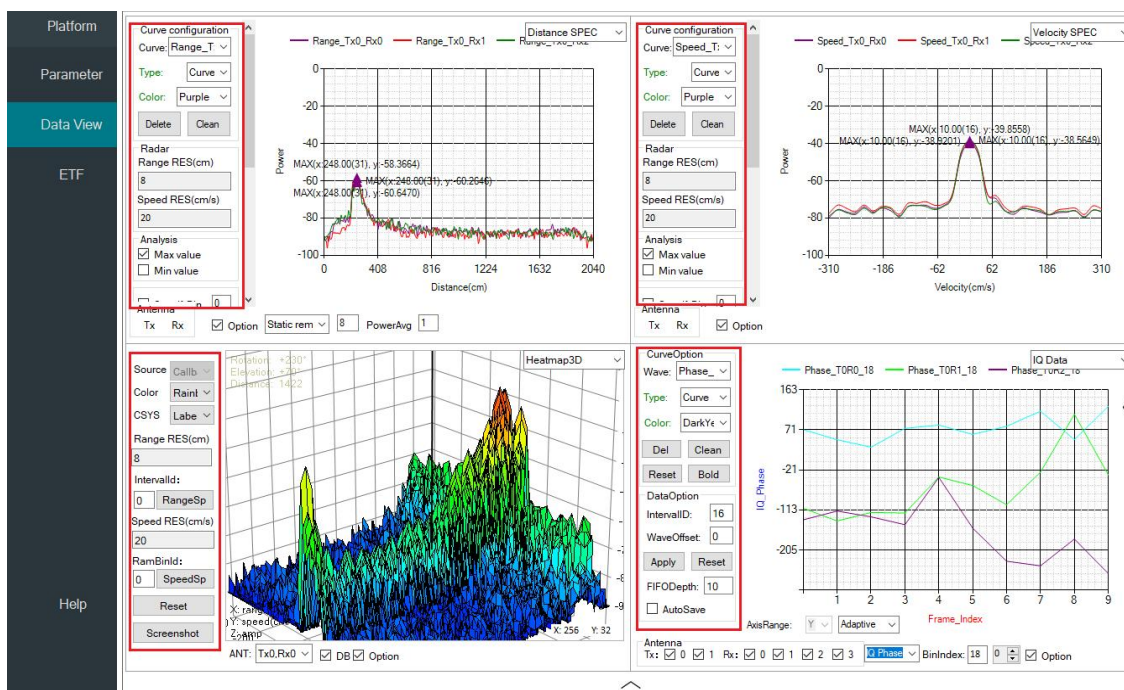

Figure 2-27 Configuration Options (DataCube)
3、 As shown in Figure 2-27, select Configuration Options to open the configuration pane. This pane provides curve configuration, resolution settings, and signal analysis.